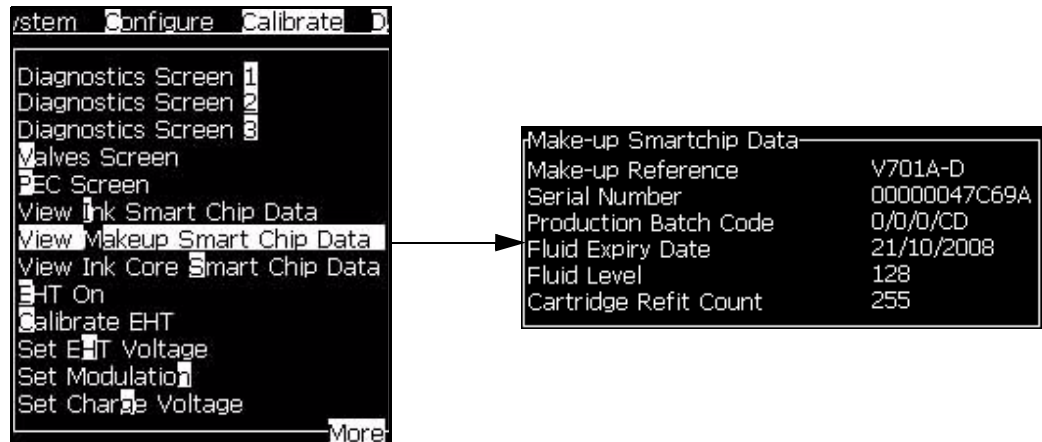

Figure 4-17: View Makeup Smart Chip Data Option
- 27 Verify and record the make-up type and expiration date. Access *Calibrate > View Makeup Smart Chip Data* menu (see Figure 4-17).